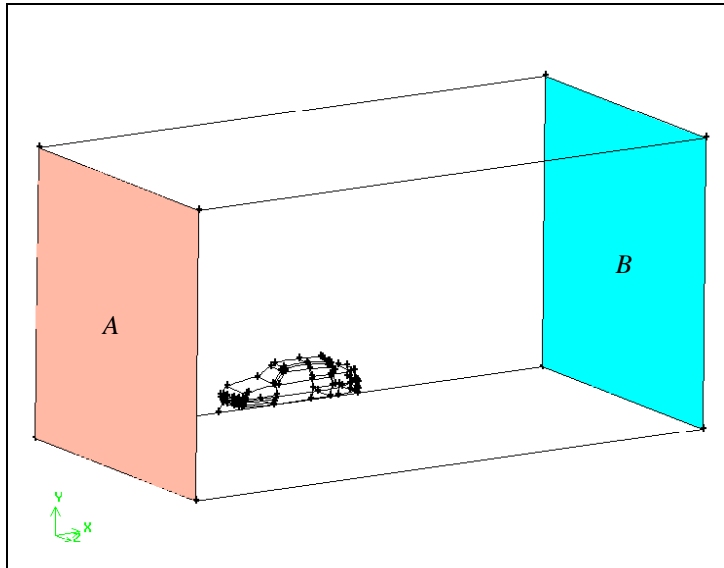

Figure 6-22: Pressure inlet (A) and pressure outlet (B) for the sedan geometry
- iii. Select (pick) the face on the brick in front of the car in the graphics window (face A in Figure 6-22) and click **Apply** to accept the selection.
- ii. Select (pick) the face on the brick behind the car in the graphics window (face *B* in Figure 6-22) and click **Apply** to accept the selection.